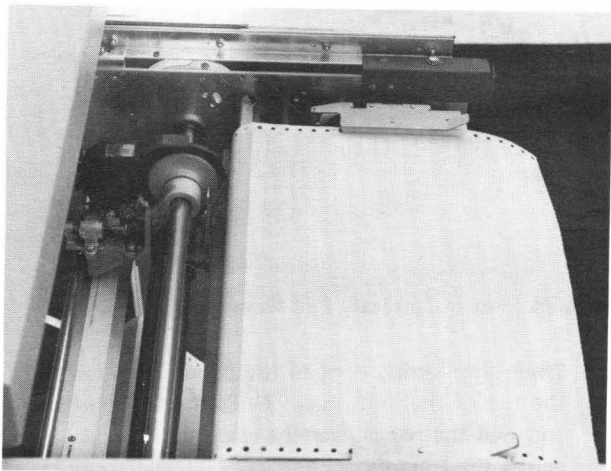

Figure 25. Checking Print Wheel Position.
10. Check the position of the print wheel in relation to the right edge of the paper (see Figure 25). The